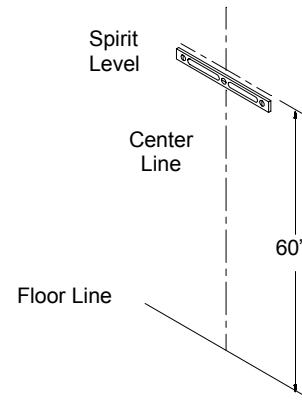

FIGURE 4
1. Determine and mark the vertical center line for installation of the manifold. (Figure 4)